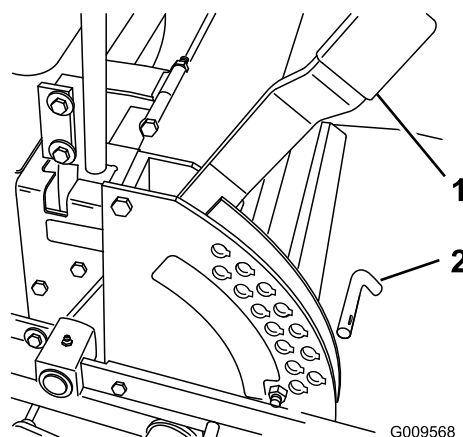

Figure 19
1. Raise the height-of-cut lever to the transport position (also the 5 inch (127 mm) cutting height position) (Figure 19).
2. To adjust, remove the pin from the height-of-cut bracket (Figure 19).
3. Select a hole in the height-of-cut bracket corresponding to the height-of-cut desired and, insert the pin (Figure 19).